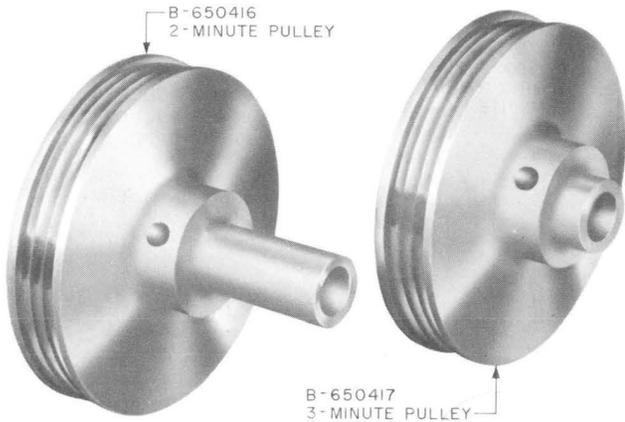

Fig. 12—Drive Pulleys
- (11) Reassemble parts in reverse order of removal [3.10(9) through (1)] being sure to align the grooves in the drive pulley (Fig. 12) with the grooves in the motor shaft and that the round drive belts are parallel with each other.
- (12) Solder all the leads to the associated terminals.
- (13) Shift the idler assembly as necessary to meet the requirements for the flat drive belt (Section 034-354-701).